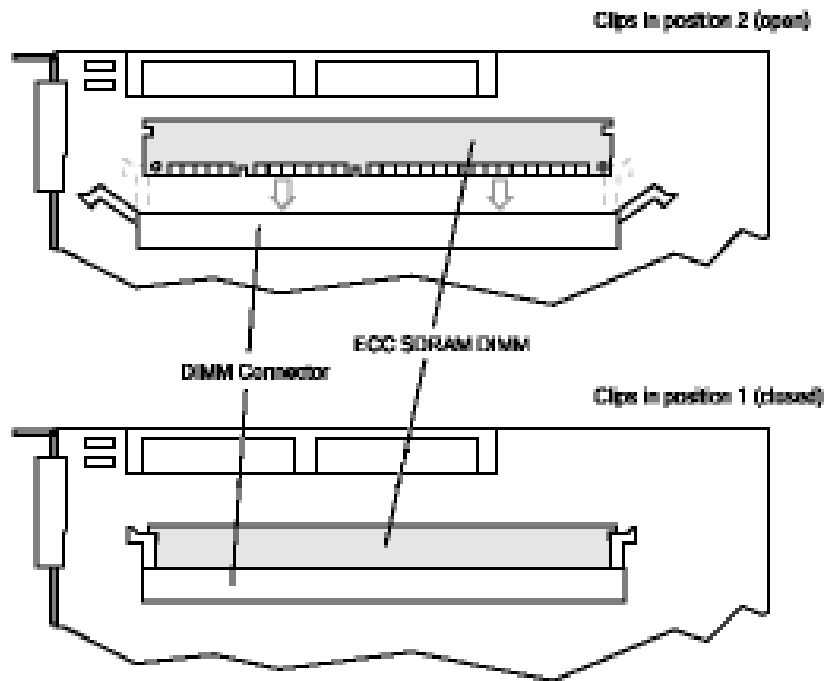

Figure 7. Installing the SDRAM
1. With clips A1 and A2 (see Figure 7) in the open position (position 2), insert the DIMM into the DIMM connector (the DIMM and connector are keyed to ensure proper insertion).